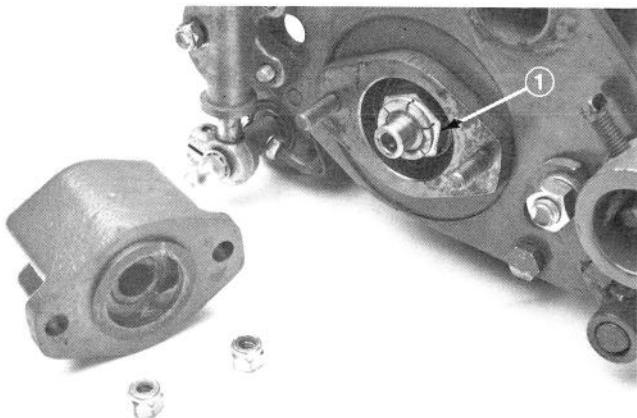

Figure 14
- With the wrench mounted, hold the reel and tighten the large reel bearing adjustment nut (Fig. 14). Tighten until the drag on the reel meets 7 to 11 inch-pound specification.
- Reinstall bolt into end of the reel shaft and check the torque with an inch/pound torque wrench (Fig. 14).